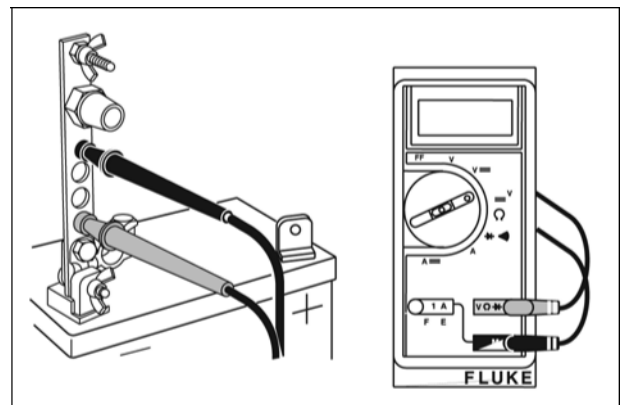

Figure 19
1. Remove pulley nut using tool #SST and 10 mm deep socket (Figure 19).